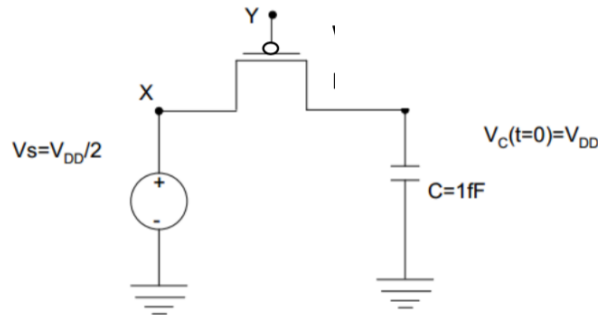

Figure 1: Circuit setup
- 1) Implement a one-bit 1T DRAM cell in Hspice initially with  $\text{Fin}\#=1$  and  $C=1\text{fF}$  using the PTM FinFET CMOS technology and the circuit setup shown in Figure 1.